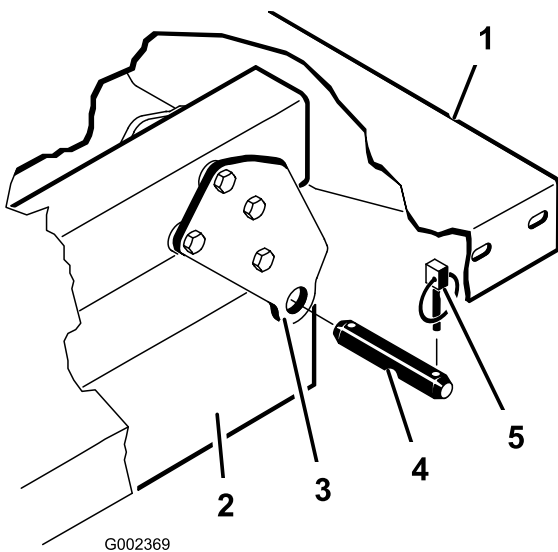

Figure 4
4. Remove the lynch pins and clevis pins securing the pivot brackets to the frame channels (Figure 4)